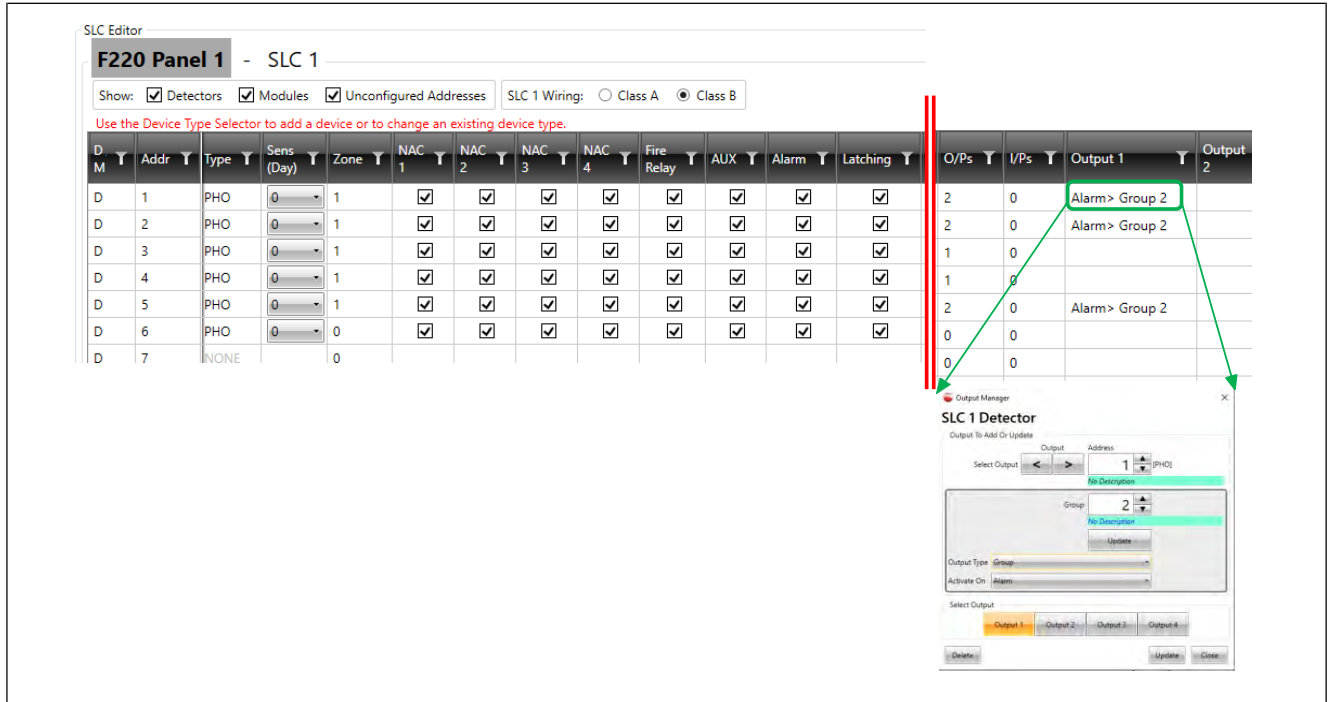

Figure 8-8: FireUtils SLC Editor: Configuring detector outputs into a group
1. In FireUtils SLC Editor, double click on Output 1 of detector 1 to display the Output Manager as shown in Figure 8-8.